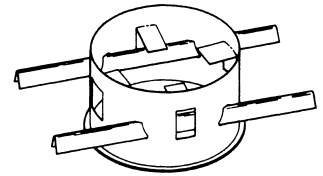

Figure 2
3. Place U-shaped hanger bars through pairs of openings in the side of the AmeriVent Bucket. Note that open portion or U-shaped bar faces downward. Do not use rectangular openings with inward-bent tabs. Instead, pass hanger bars through closest pairs of plain openings as shown in **Figure 2**.